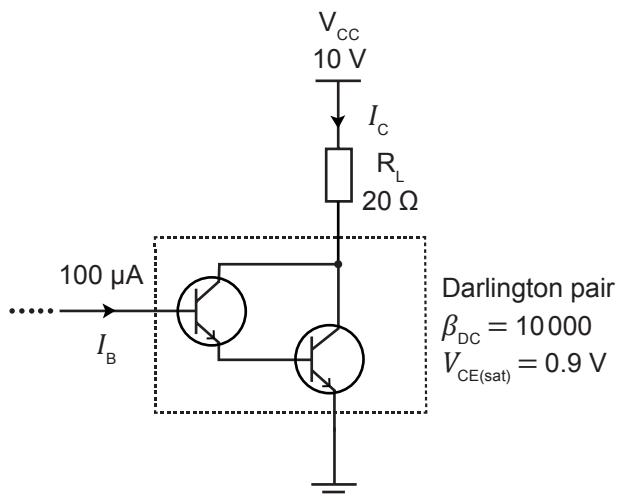

Figure 9.34
- (b) The student can connect the two BJTs as a Darlington pair as shown in Figure 9.34.